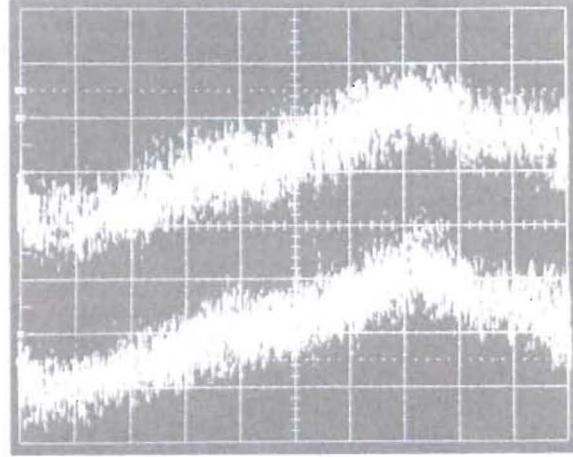

Figure 41 Dual Trace Display of Noise
- Connect the noise to both vertical channels simultaneously in the alternate-sweep mode. Two noise traces will appear (Figure 41).